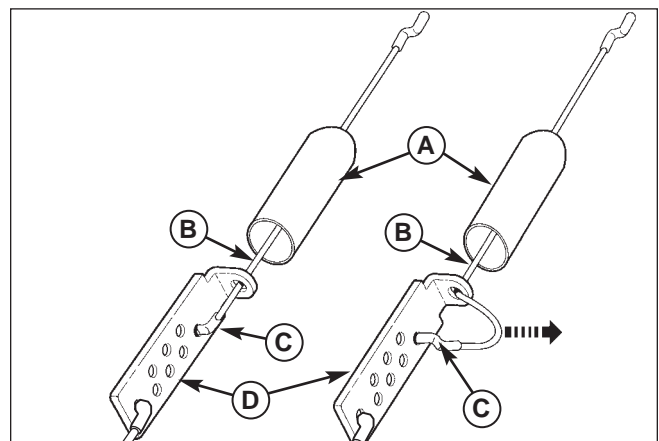

Figure 21. Traction Drive Cable Adjustment
2. To adjust tension on the cable slide the cable boot (A, Figure 21) off the cable adjustment bracket (D).
3. Move the "Z" hook (C) from the cable adjustment bracket (D) to a different adjustment hole. The cable should have slack. The cable should have no tension or load.
4. Slide the cable boot (A) over the cable adjustment bracket.